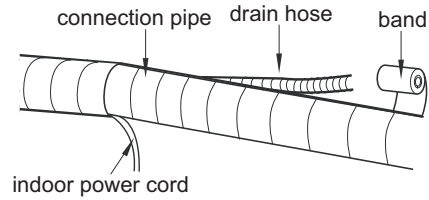

Fig.14
- 2.Reserve a certain length of drain hose and power cord for installation when binding to a certain degree, separate the indoor power and then separate the drain hose. (As show in Fig.14)